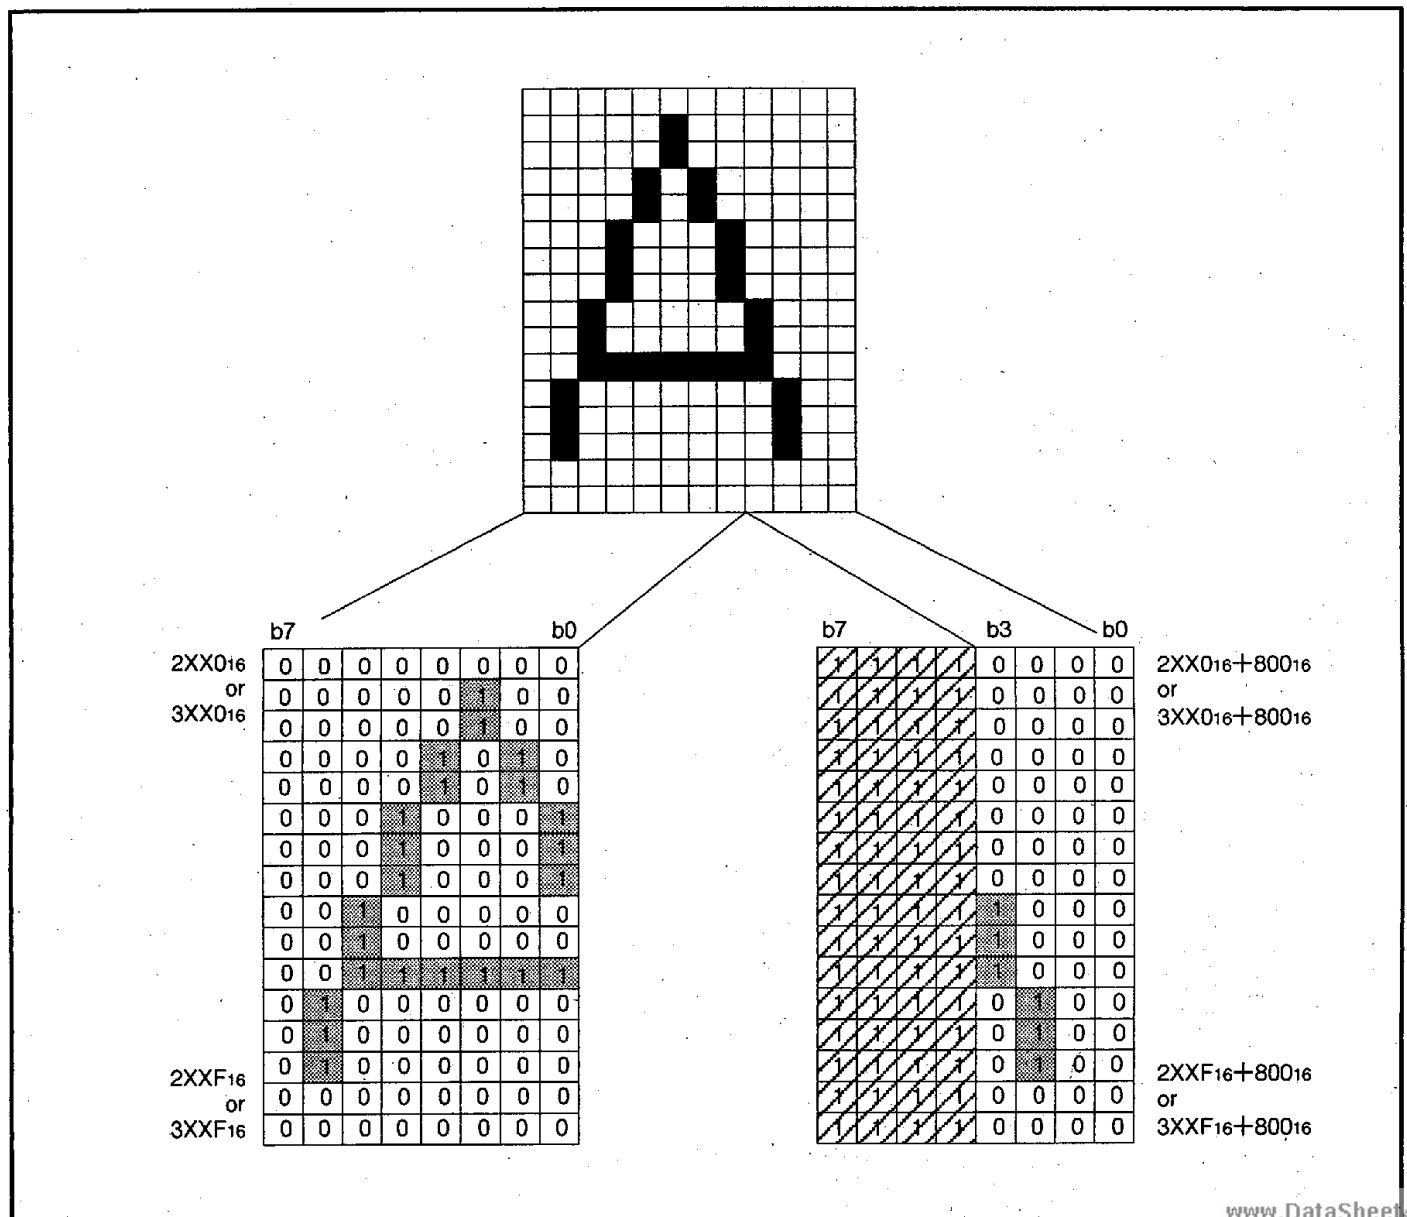

Fig. 37. Display character stored data
The CRT display ROM space is broadly divided into 2 areas. The [vertical 16 dots] × [horizontal (left side) 8 dots] data of display characters are stored in addresses  $2000_{16}$  to  $27FF_{16}$  and  $3000_{16}$  to  $37FFF_{16}$ ; the [vertical 16 dots] × [horizontal (right side) 4 dots] data of display characters are stored in addresses  $2800_{16}$  to  $2FFF_{16}$  and  $3800_{16}$  to  $3FFF_{16}$  (refer to Figure 37). Note however that the high-order 4 bits in the data to be written to addresses  $2800_{16}$  to  $2FFF_{16}$  and  $3800_{16}$  to  $3FFF_{16}$  must be set to "1" (by writing data "FX $_{16}$ ").
For example, to display 1 character position (the left edge) in block 1, write the character code in address 100016 and write the color register No. to the low-order 2 bits (bits 0 and 1) in address 108016. The color register No. to be written here is one of the 4 color registers in which the color to be displayed is set in advance. For details on color registers, refer to (5) Color Registers. The structure of the CRT display RAM is shown in Figure 37.